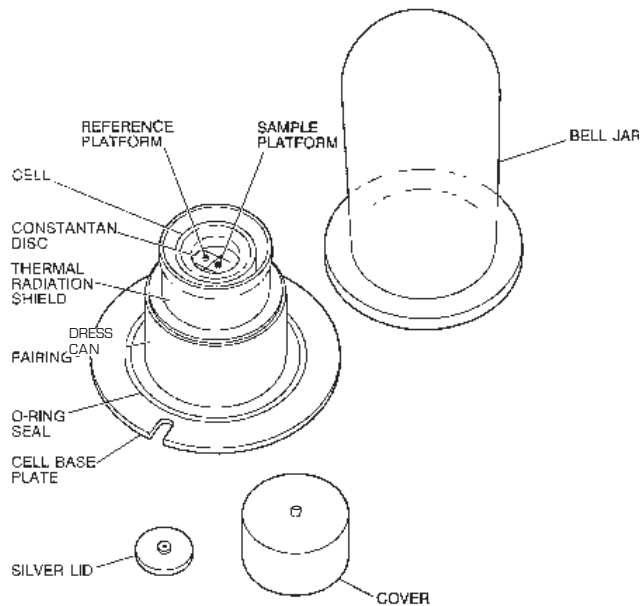

Figure 2.9
1. Remove the bell jar from the cell you are about to install (see Figure 2.9).